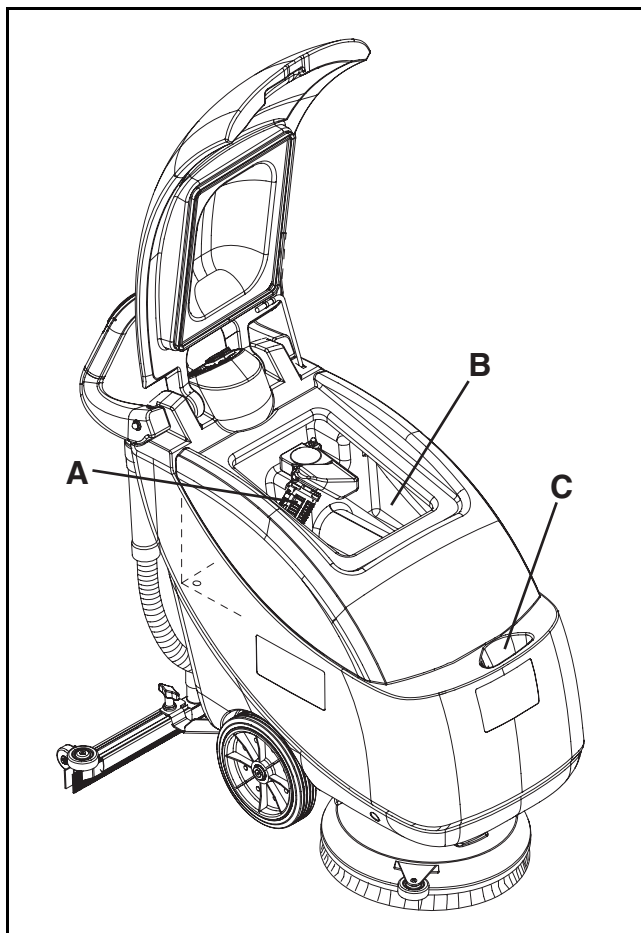

Figure 20
An automatic float shut-off system (A, Fig. 20) deactivates the vacuum system once the recovery tank (B) is full. The vacuum system shutdown is due to the recovery tank filling, which prevents recovery water from being vacuumed, and it is signalled by a sudden increase in the system motor noise frequency.
When the recovery tank (B, Fig. 20) is full, empty it according to the following procedure.
2. Empty the tanks (B and C, Fig. 20) according to the procedure shown in the previous paragraph.